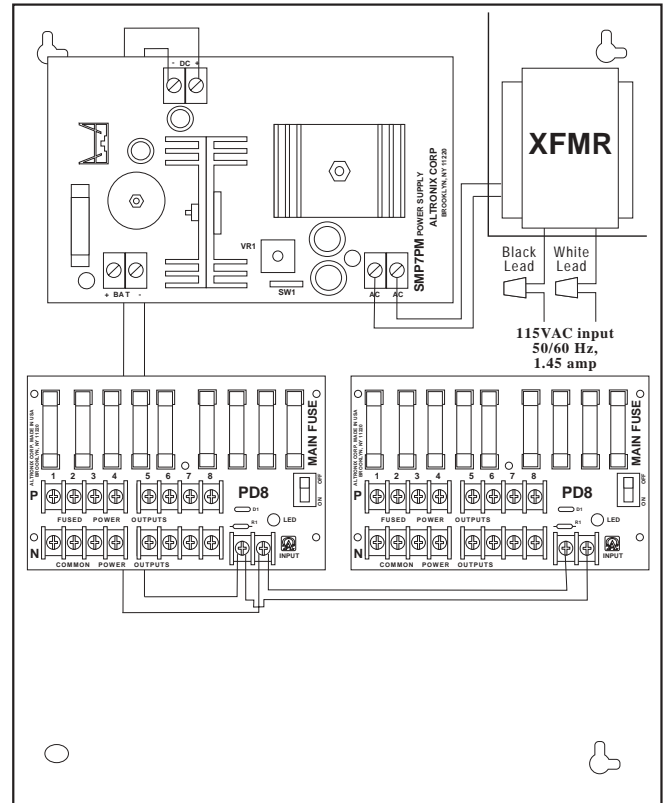

Fig. 1
- Sixteen (16) individually fused outputs.
- Output fuses are rated at 3.5 amps / 250VAC (Fig. 1).
- Main fuses are rated at 5 amps / 250VAC (Fig. 1).
2. Slide switch SW1 (Fig. 1) to OFF position.
3. Set the ALTV1224-DC2 to desired DC output voltage by setting switch (SW1) (Fig. 1) on the power supply board to the appropriate position (see power supply output specification table).
4. Connect the AC (115VAC 50/60 Hz) to the black and white flying leads of the transformer (Fig. 1).
5. Connect each DC device to output terminals using the following procedure (Fig. 1).
6. When batteries are being used the DC output voltage must be adjusted by turning the trim pot VR1 (Fig. 1) clockwise to increase the output voltage to 13.7 VDC for 12 VDC operation and 27.1 VDC for 24 VDC operation. Connect battery to terminals marked [- BAT +] (Fig. 1) (battery leads included). Use two (2) 12VDC batteries connected in series for 24VDC operation.
7. Slide switch SW1 (Fig. 1) to ON position.